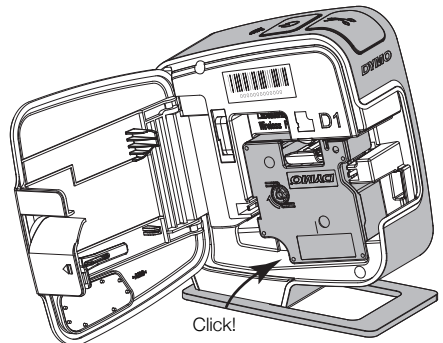

Figure 4
- 3 Insert the cassette and press firmly until the cassette clicks into place. See Figure 4.